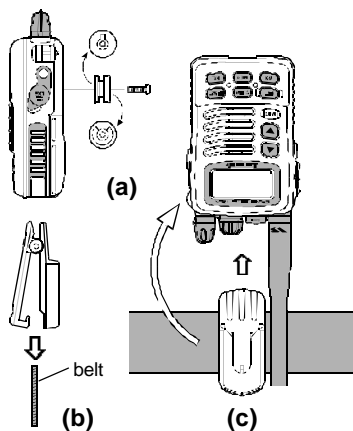

Figure 4
1. Connect the hanger to the rear of the **HX460S**, with the notch pointing directly up, using the supplied screw (**Figure 4-a**).
2. Clip the Quick Draw Belt Clip to your belt (**Figure 4-b**).
4. To remove the **HX460S** from the Quick Draw Belt Clip, Rotate the **HX460S** 180 degrees, then slide the transceiver out from the Quick Draw Belt Clip (**Figure 4-c**).